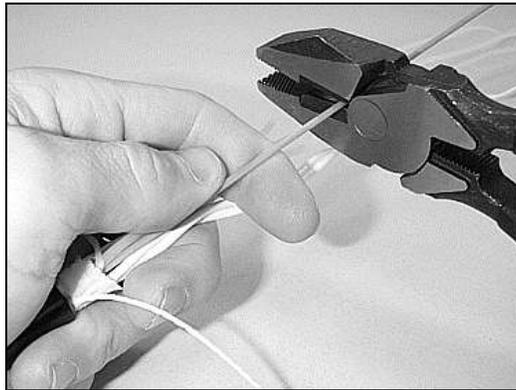

Figure 41 - Cut the central strength member to the required length.
6.25 Consult the splice closure instructions for the length of strength member required for strain relief. Trim the central member as required at both ends of the sheath opening (Figure 41).